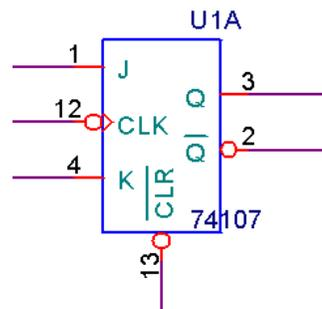

Figure B-1.
Flip Flops: It is possible using basic logic gates to build a circuit that remembers its present condition. These circuits are called flip flops. There are several different kinds of flip flops with slightly different characteristics. In this course we use the JK flip flop. A symbol for a JK flip flop is pictured in Figure B-1. JK flip flops have four inputs, two outputs and the usual two power connections (V_{CC} and ground). The outputs are labeled Q and \bar{Q} (also called Qbar and NQ). They are complements of one another. Thus, when Q is LOW, Qbar is HIGH, etc. CLK is a digital clock input. A flip flop only changes its output when the clock pulse at CLK goes from HIGH (+Vcc) to LOW (0V). This is called the “falling edge” of the clock. The input \overline{CLR} , when LOW, will reset the outputs to a known state. It has the following truth table:
- Set up the 74107 JK flip flop on the protoboard, Fig B-1.